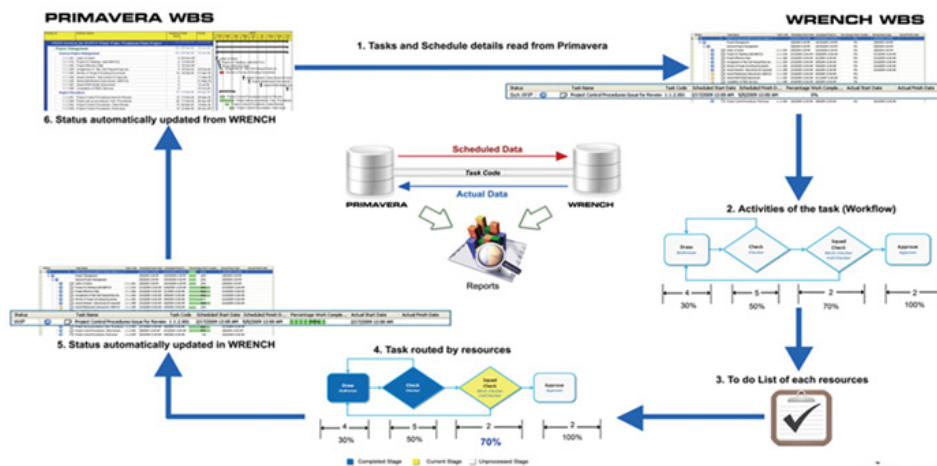

Figure 4: Automation
***Geek Alert:** In a digitized EVM-based system (ref above figure 4), the plans would get published to all automatically (i.e. via the automated system, no human effort required), the people whose job it was to initiate the work would get a to-do list with target dates, and people would be prompted by the system to complete their work, after which they would be prompted to route it through the predefined electronic workflow to the next user in the sequence (who would also be given his own personalized to-do list at the right time).*